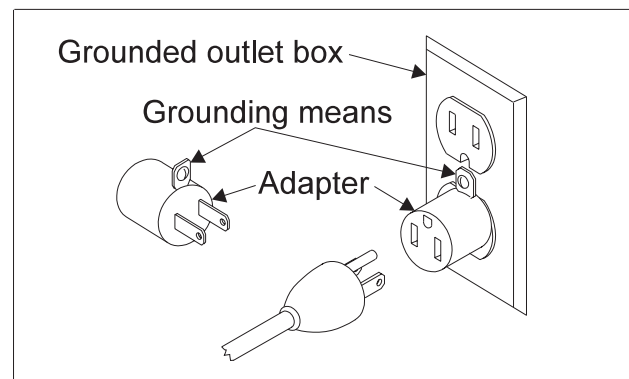

Figure 7. Grounded adapter connection
- A temporary adapter, which looks like the adapter illustrated in Figure 7, may be used to connect this plug to a 2-pole receptacle, as shown in Figure 7, if a properly grounded outlet is not available.